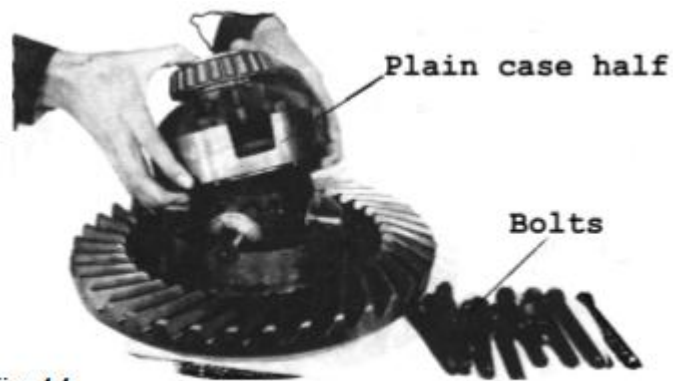

Fig 44
- * Lift off the plain case half (Fig. 44) on the next page.